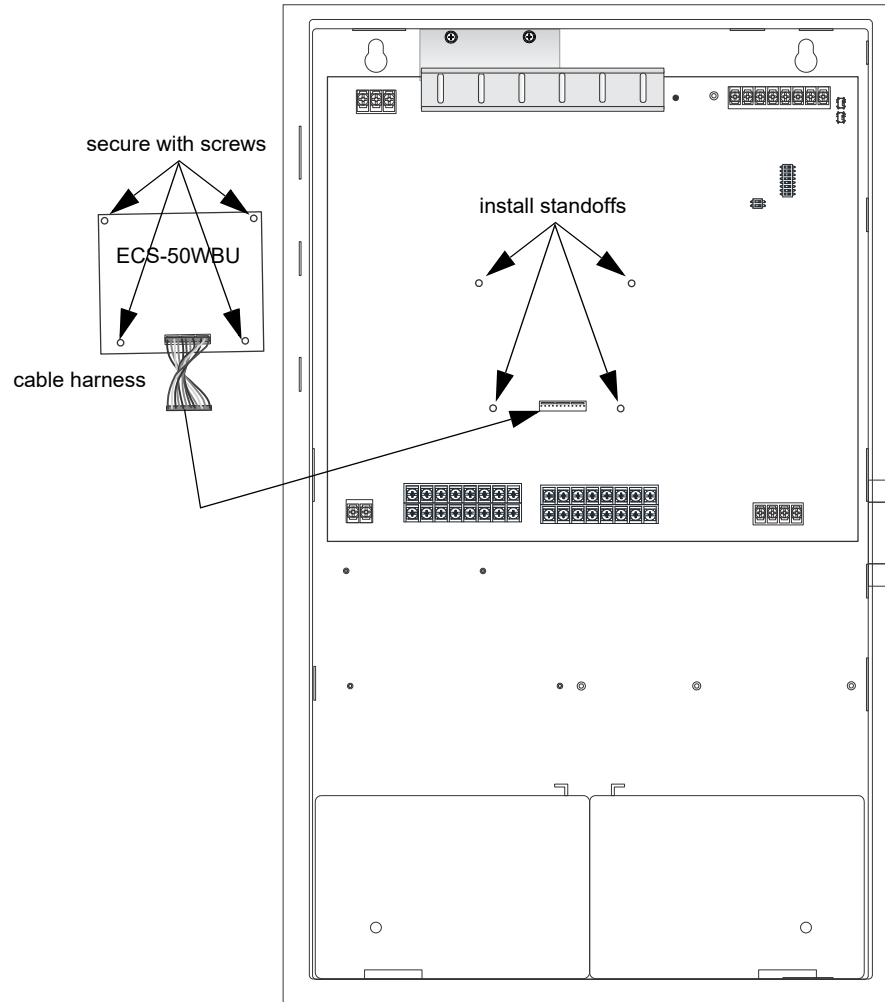

Figure 4.66 Mounting the ECS-50WBU
2. Secure the four standoffs supplied with the ECS-DUAL50W to the board as shown in Figure 4.66.